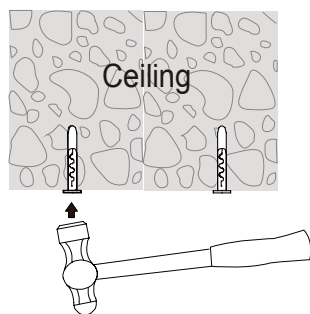

Fig.10
- Step5 Knock the plastic expansion screw into the hole which you drill (as Fig.10)